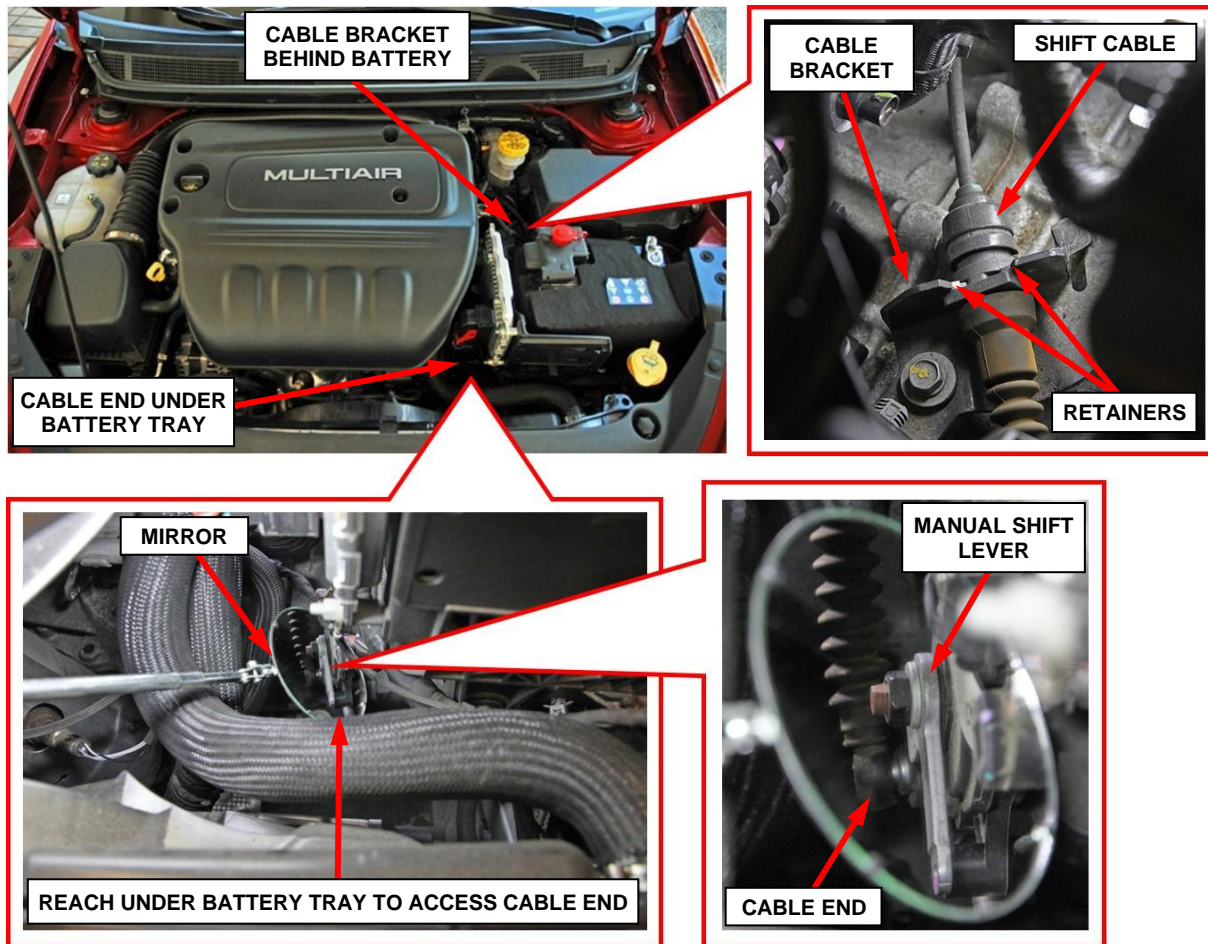

Figure 1 – Shift Cable Location on Transmission – Reach Under Battery Tray
NOTE: The battery tray does NOT require removal. Transmission gear shift cable bushing requiring replacement is accessible by reaching under the battery tray (Figure 1).
3. Release the transmission gear shift cable end from the transmission manual shift lever (Figure 1).
4. Release the retainers securing the transmission gear shift cable to the cable bracket (Figures 1 and 2).
- Engage the retainers securing the transmission gear shift cable to the cable bracket (Figures 1 and 2).
- Install the transmission gear shift cable end to the transmission manual shift lever. Ensure the cable end bushing is securely engaged onto the manual shift lever (Figure 1).